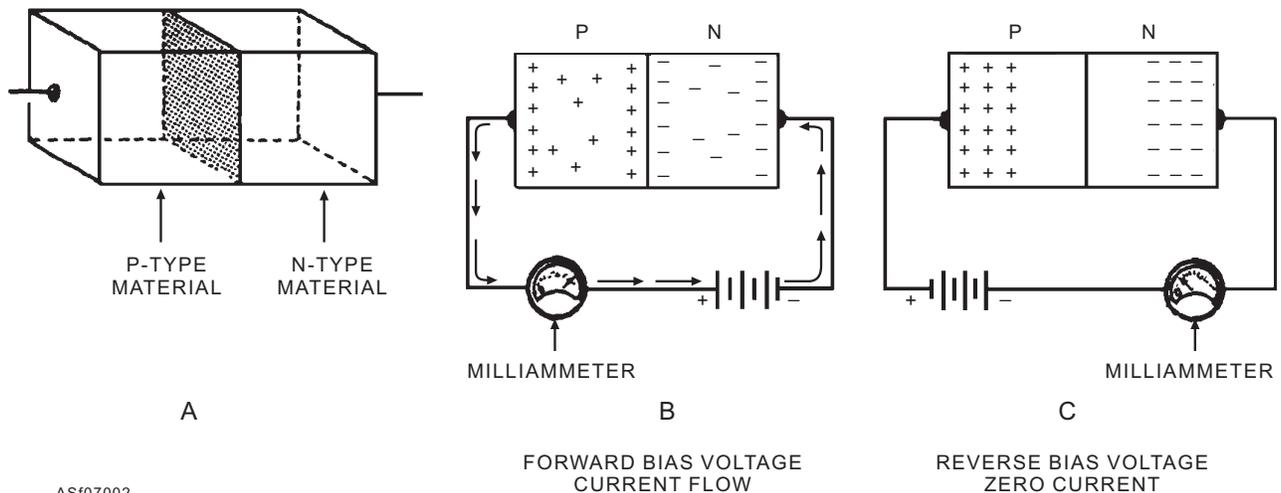

Figure 7-2.—Junction diode.
**DIODES.**—The basic function of the diode is to act as a rectifier (one-way valve for electricity). The diode is the simplest kind of semiconductor. Figure 7-2 shows how a diode conducts; view A shows the P junction and N junction mated together, and view B shows current flow from the battery to the N section of the diode. These negatively charged electrons repel the free negative electrons already there, forcing them toward the PN junction. At the same time, electrons are being withdrawn from the P section, creating new holes. The new holes repel the old ones, moving them toward the PN junction. The holes in the P section and the electrons in the N section move toward each other. As the holes and electrons meet at the junction, the electrons fall into the holes. This action continues as